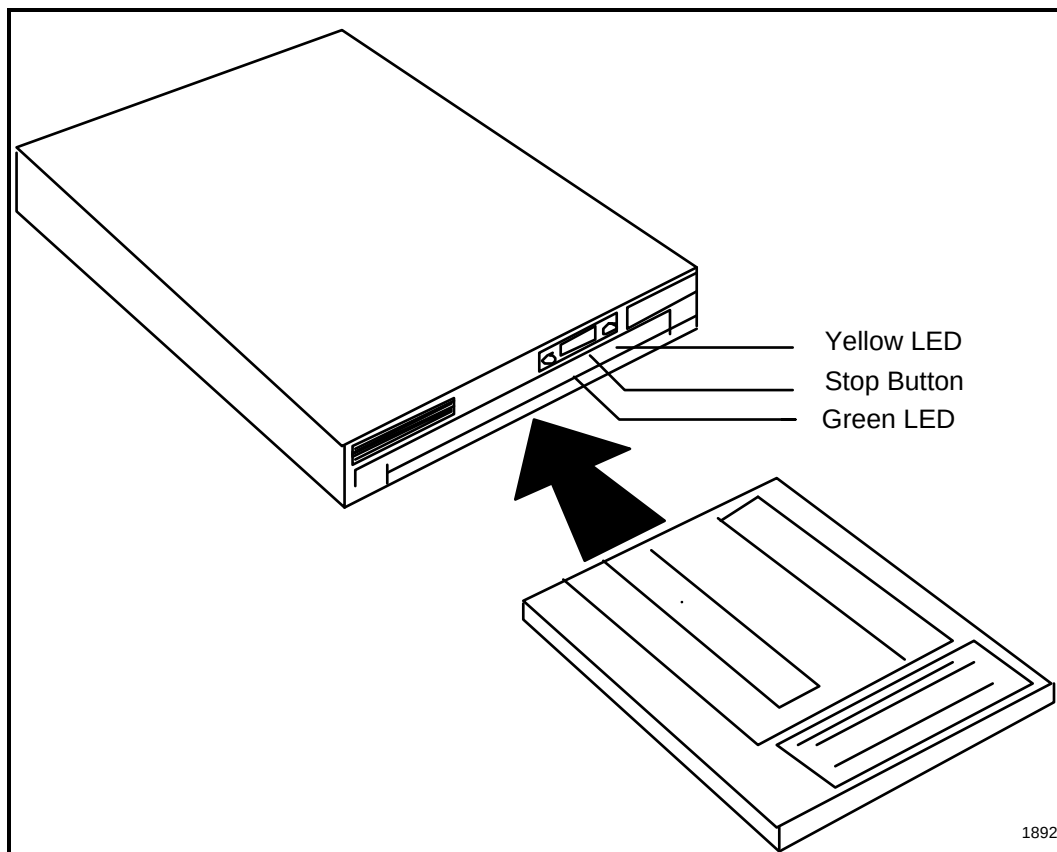

Figure A-1 — Cartridge Insertion
- When the cartridge is inserted into the drive, shutter first. The cartridge edge containing the shutter faces toward the stop button on the front of the drive (see Figure A-1). Interlocks in the system prevent improper cartridge insertion.
- After loading a cartridge, the green indicator on the front of the drive, next to the stop button blinks as the motor picks up speed. When the indicator stops blinking and stays lit, the drive is READY. See Figure A-1.
The yellow LED flashes briefly as the drive reads initialization information from the disk. If the drive fails to initialize correctly, an error condition exists. If this occurs, reinsert the cartridge to ensure proper seating. If this does not correct the problem, the media may require reformatting or the drive may require service. See Figure A-1.
- To remove the cartridge, push the stop button. The green LED then begins to blink as the motor spins down. When the motor comes to a stop, the green LED turns off and the latch pin disengages. The cartridge can then be removed. See Figure A-1.